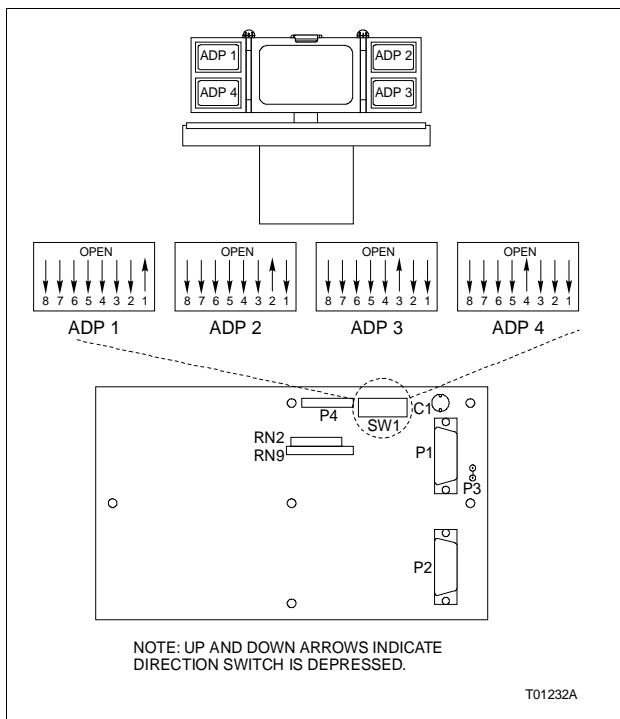

Figure PR64-3. ADP Circuit Board Assembly
- 10. Remove the ADP and set the ADP address (SW1) on the new ADP according to which pod position the ADP will be installed (Fig. PR64-3).